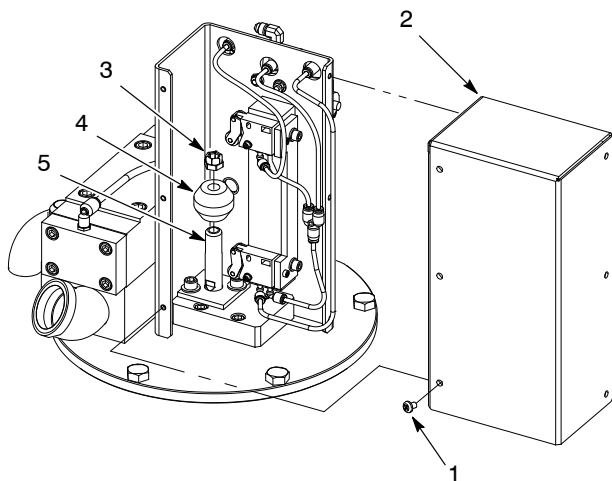
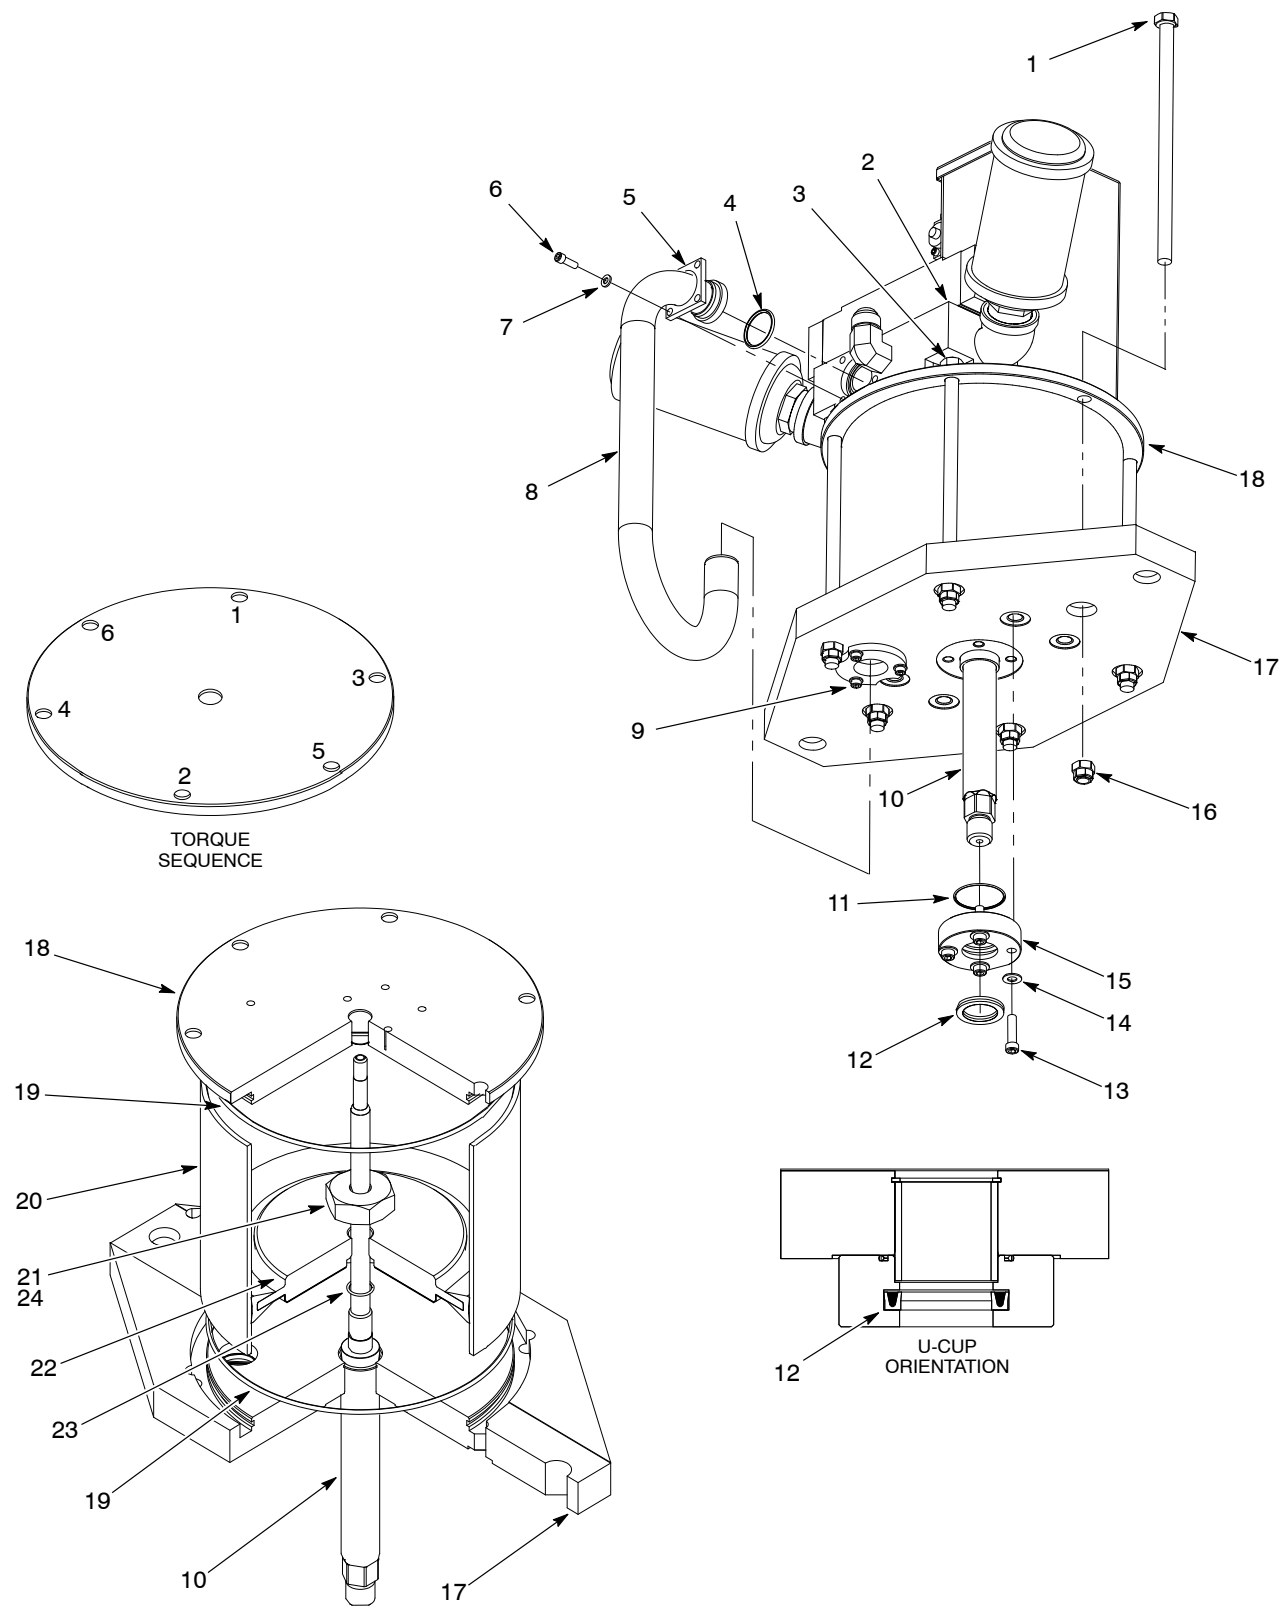

Figure 12 Removing the Trip-Rod Cover
Figure 13 Replacing the Piston
1. See Figure 12. Remove the screws (1) securing the trip-rod assembly cover (2).
2. Place a wrench on the flats of the piston rod (5).
3. Remove the nut (3) securing the trip-bar (4) to the piston rod (5).
4. See Figure 13. Remove the screws (6) and washers (7) securing the upper supply tube retainer (5) to the air manifold (2).
5. Loosen the lower supply tube retainer screws (9).
6. Remove the supply tube (8) from the air manifold (2) and base plate (17). Remove and discard the O-ring (4) from the air manifold (2).
7. Remove the screws (13) and washers (14) securing the piston rod retainer (15) to the base plate (17). Remove the O-ring (11) and U-cup (12). Discard the O-ring and U-cup.
8. Remove the screws (1) and nuts (16) securing the air motor cap (18) to the base plate (17). Use a wrench on the flats of the two screws (3) below the air manifold (2) to remove the nuts.
9. Remove the air motor cap (18) and set it on a flat surface. Remove and discard the air motor cap O-ring (19).
10. Remove the air cylinder (20) and O-ring (19) from the base plate (17). Discard the O-ring. Remove the piston assembly from air cylinder.
11. Remove the nut (21) securing the piston (22) to the piston rod (10). Remove the O-ring (23) from the piston rod and discard.
1. See Figure 13. Apply TFE grease to the following parts:
- inner surface of the air cylinder (20)
- piston (22)
- U-cup (12)
2. Install the O-ring (23) onto the piston rod (10).
3. Apply Loctite 242 (24) to the upper threads of the piston rod (10). Install the piston (22) onto the piston rod. Install the nut onto the piston rod and tighten to 200–220 ft-lb (271–298 N•m).
4. Assemble the piston assembly and air cylinder (20):
- b. Apply TFE grease to the piston rod (10).
5. Install the O-rings (19) onto the base plate (17) and air motor cap (18).
7. Install the air motor cap (18) onto the air cylinder (20) using the screws (1, 3). Perform the following:
- a. Install the nuts (16) onto the screws.
8. Insert the O-ring (11) and U-cup (12) into the piston rod retainer (15) as shown.
9. Install the piston rod retainer (15) onto the base plate (17) using the screws (13) and washers (14). Tighten the screws to 22–25 ft-lb (30–33 N•m).
10. Carefully insert the bottom portion of the air supply tube (8) through the lower retainer (9) and into the base plate (17).
11. Carefully insert the upper portion of the air supply tube (8) into the air manifold (2).
12. Secure the upper retainer (5) to the air manifold (2) using the screws (6) and washers (7). Tighten the screws to 10–12 ft-lb (13–16 N•m).
13. Tighten the screws on the lower retainer (9) to 10–12 ft-lb (13–16 N•m).
14. See figure 12. Install the trip-bar (4) to the piston rod (5) using the nut (3). Tighten the nut securely.
15. Install the cover (2) to the air motor using the screws (1). Tighten the screws securely.